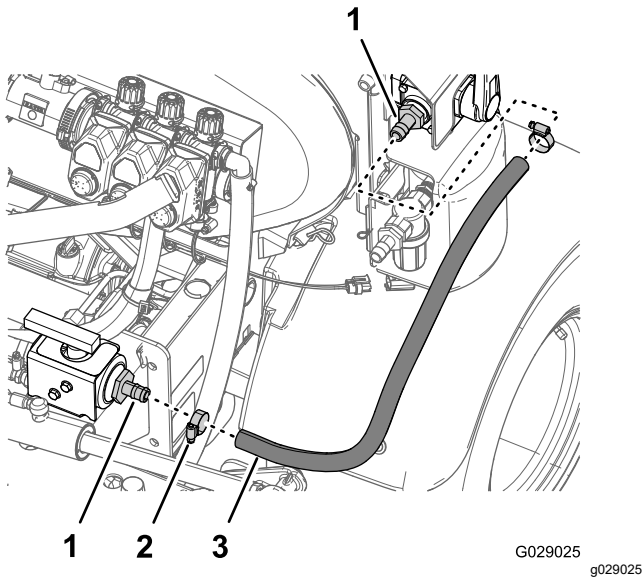

Figure 43
1. Assemble the end of the Hose 1.9 x 76 cm (3/4 x 30 inch) over the straight-barbed fitting at the outboard side of the ball valve (Figure 43).
2. Secure the hose to the barbed fitting with a hose clamp (Figure 43).
3. Assemble the free end of the hose 1.9 x 76 cm (3/4 x 30 inch) over the straight-barbed fitting at the back of the 4-way valve (Figure 43).
4. Secure the hose to the fitting with a hose clamp (Figure 43).